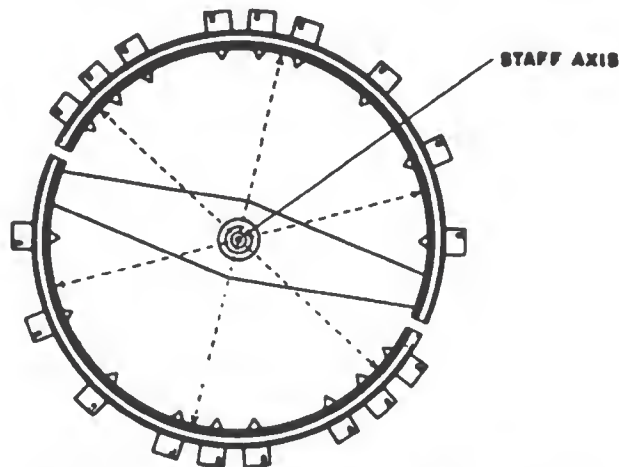

Figure 36. — Rim perpendicular to the staff axis.
2. The entire rim must be perpendicular to the staff axis (figure 36).